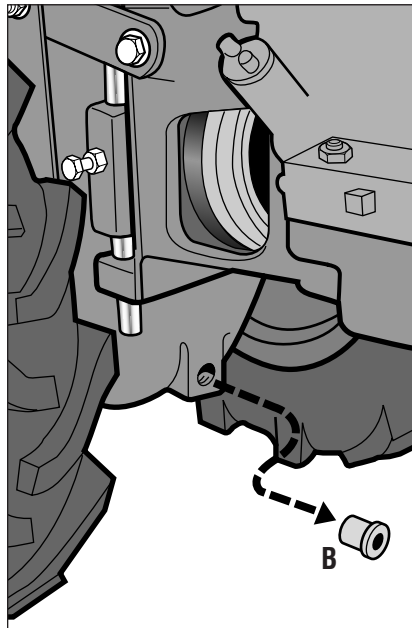

Fig. 3
4. Remove and discard the red plastic thread protector plug (B, Fig. 3) at the front of the transmission.